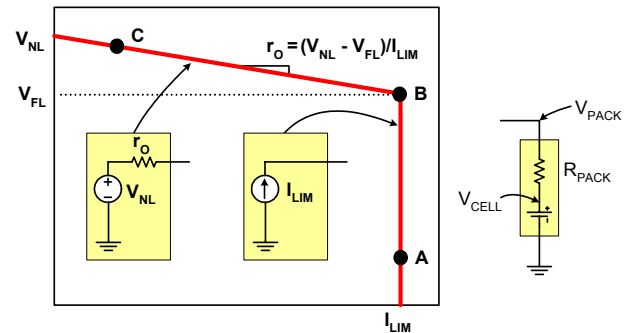
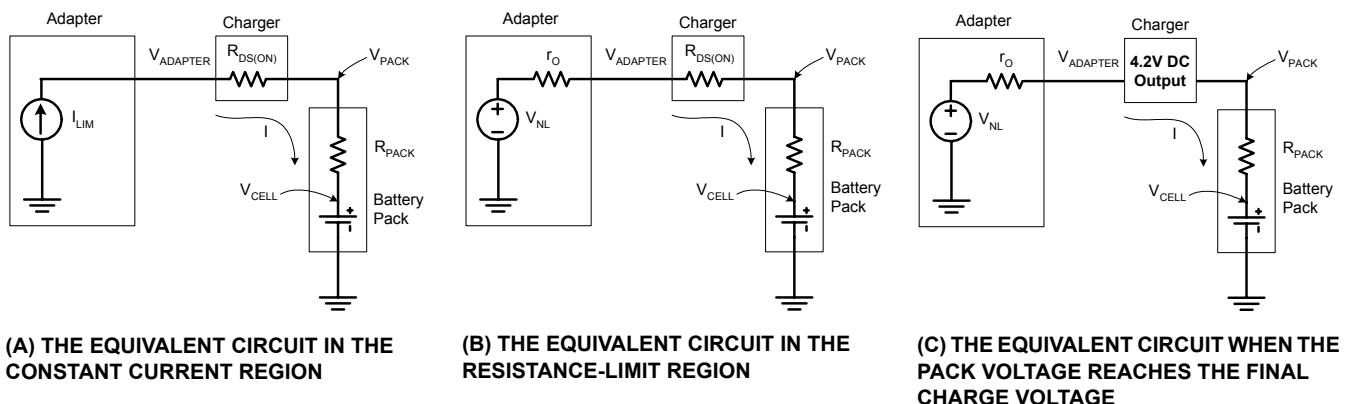
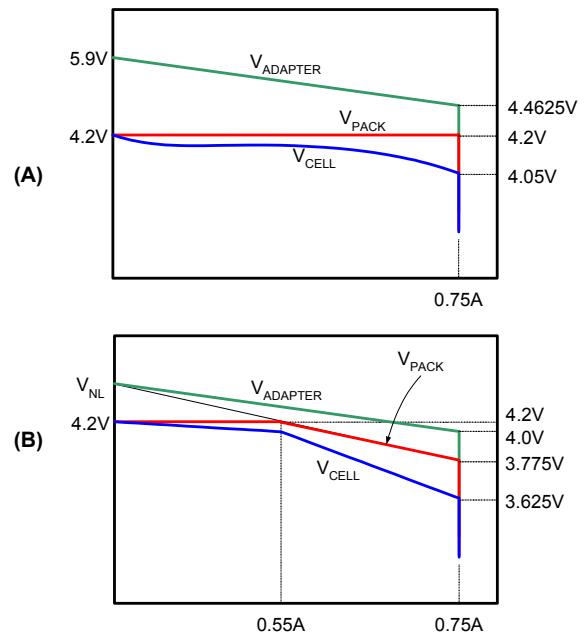
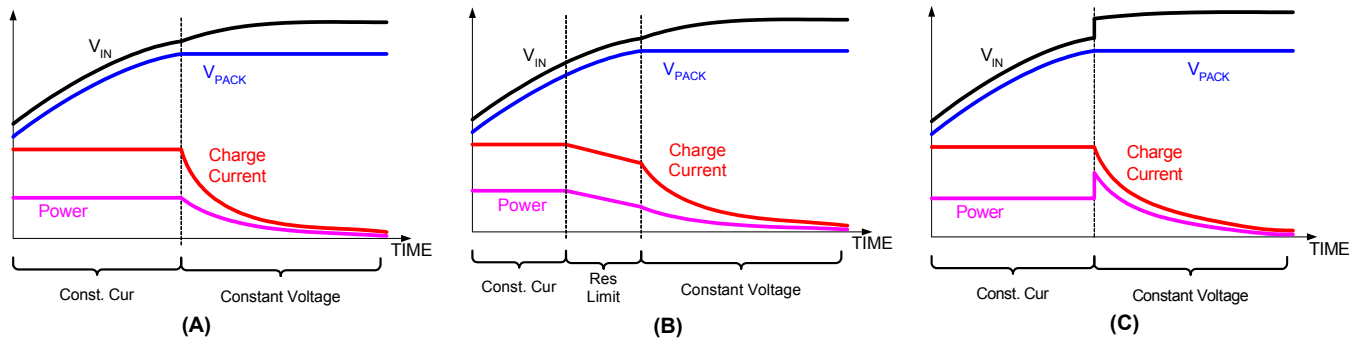

FIGURE 24. THE IDEAL I-V CHARACTERISTICS OF A CURRENT LIMITED ADAPTER
FIGURE 25. THE EQUIVALENT CIRCUIT OF THE CHARGING SYSTEM WORKING WITH CURRENT LIMITED ADAPTERS
FIGURE 26. THE I-V CHARACTERISTICS OF THE CHARGER WITH DIFFERENT CURRENT LIMITED ADAPTERS
FIGURE 27. THE OPERATING CURVES WITH THREE DIFFERENT CURRENT LIMITED ADAPTERS
Figure 24 shows the ideal current-voltage characteristics of a current-limited adapter. V_{NL} is the no-load adapter output voltage and V_{FL} is the full load voltage at the current limit I_{LIM} . Before its output current reaches the limit I_{LIM} , the adapter presents the characteristics of a voltage source. The slope r_O represents the output resistance of the voltage supply. For a well regulated supply, the output resistance can be very small, but some adapters naturally have a certain amount of output resistance.
current-voltage characteristics curve, such as point A, to higher voltage until reaching the breaking point B, as shown in Figure 24.
The adapter is equivalent to a voltage source with output resistance when running in the constant-voltage region; because of this characteristic. As the charge current drops, the adapter output moves from point B to point C, shown in Figure 24.
The battery pack can be approximated as an ideal cell with a lumped-sum resistance in series, also shown in Figure 24. The ISL6292 charger sits between the adapter and the battery.
As described earlier, the ISL6292 minimizes the thermal dissipation when running off a current-limited ac adapter, as shown in Figure 18. The thermal dissipation can be further reduced when the adapter is properly designed. The following demonstrates that the thermal dissipation can be minimized if the adapter output reaches the full-load output voltage (point B in Figure 24) before the battery pack voltage reaches the final charge voltage (4.1V or 4.2V). The assumptions for the following discussion are: the adapter current limit = 750mA, the battery pack equivalent resistance = 200mΩ, and the charger ON resistance is 350mΩ.
When charging in the constant-current region, the pass element in the charger is fully turned on. The charger is equivalent to the on-resistance of the internal P-channel MOSFET. The entire charging system is equivalent to the circuit shown in Figure 25 (A). The charge current is the constant current limit I_{LIM} , and the adapter output voltage can be easily found out as,
A critical condition of the adapter design is that the adapter output reaches point B in Figure 24 at the same time as the battery pack voltage reaches the final charge voltage (4.1V or 4.2V), that is:
When the above condition is true, the charger enters the constant-voltage mode simultaneously as the adapter exits the current-limit mode. The equivalent charging system is shown in Figure 25 (C). Since the charge current drops at a higher rate in the constant-voltage mode than the increase rate of the adapter voltage, the power dissipation decreases as the charge current decreases. Therefore, the worst case thermal dissipation occurs in the constant-current charge mode. Figure 26 (A) shows the I-V curves of the adapter output, the battery pack voltage and the cell voltage during the charge. The 5.9V no-load voltage is just an example value higher than the full-load voltage. The cell voltage 4.05V uses the assumption that the pack resistance is 200mΩ. Figure 27 (A) illustrates the adapter voltage, battery pack voltage, the charge current and the power dissipation in the charger respectively in the time domain.
If the battery pack voltage reaches 4.2V (or 4.1V) before the adapter reaches point B in Figure 24, a voltage step is expected at the adapter output when the pack voltage reaches the final charge voltage. As a result, the charger power dissipation is also expected to have a step rise. This case is shown in Figure 18 as well as Figure 27 (C). Under this condition, the worst case thermal dissipation in the charger happens when the charger enters the constant voltage mode.
is shown in Figure 25(B). Eventually, the battery pack voltage will reach 4.2V (or 4.1V) because the adapter no-load voltage is higher than 4.2V (or 4.1V), then Figure 25(C) becomes the equivalent circuit until charging ends. In this case, the worst-case thermal dissipation also occurs in the constant-current charge mode. Figure 26 (B) shows the I-V curves of the adapter output, the battery pack voltage and the cell voltage for the case $V_{FL} = 4V$. In the case, the full-load voltage is lower than the final charge voltage (4.2V), but the charger is still able to fully charge the battery as long as the no-load voltage is above 4.2V. Figure 27 (B) illustrates the adapter voltage, battery pack voltage, the charge current and the power dissipation in the charger respectively in the time domain.
Figure 29 shows the actual captured waveforms depicted in Figure 27 (C). The constant charge current is 750mA. A step in the adapter voltage during the transition from CC mode to CV mode is demonstrated.